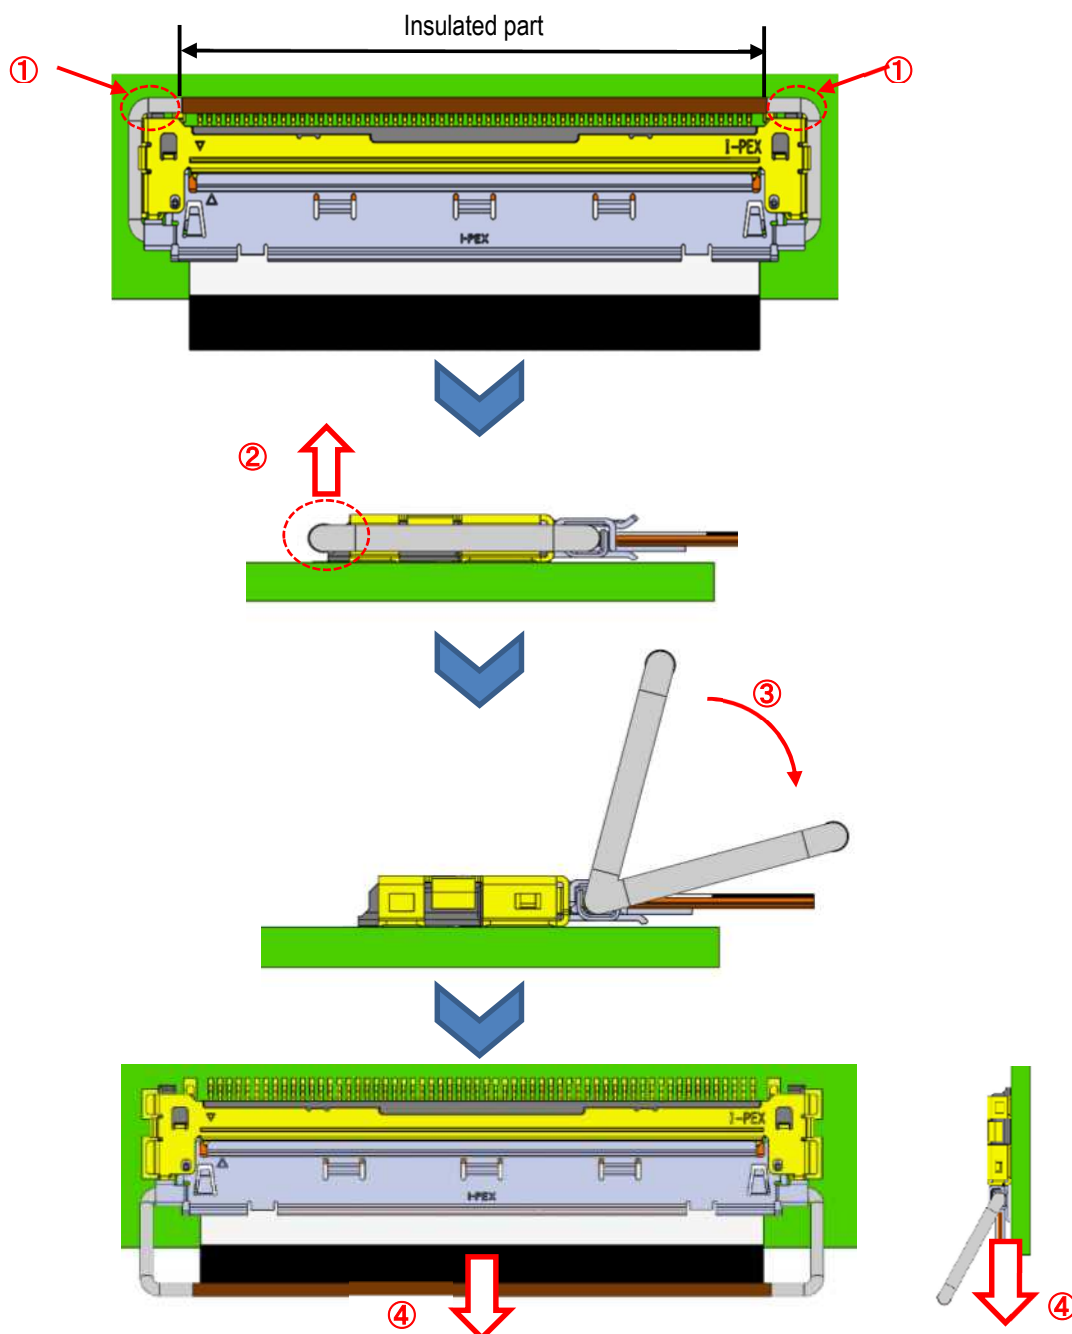

Fig. 16 Pulling FPC to unmate connectors
Select one end of the lock bar circled in ① in figure 16. Push up the selected side of the lock bar upward as shown in ② direction to release the lock. Rotate the lock bar toward FPC, indicated as ③ direction.
Slide the FPC horizontally to remove the plug from receptacle. [Fig. 16]